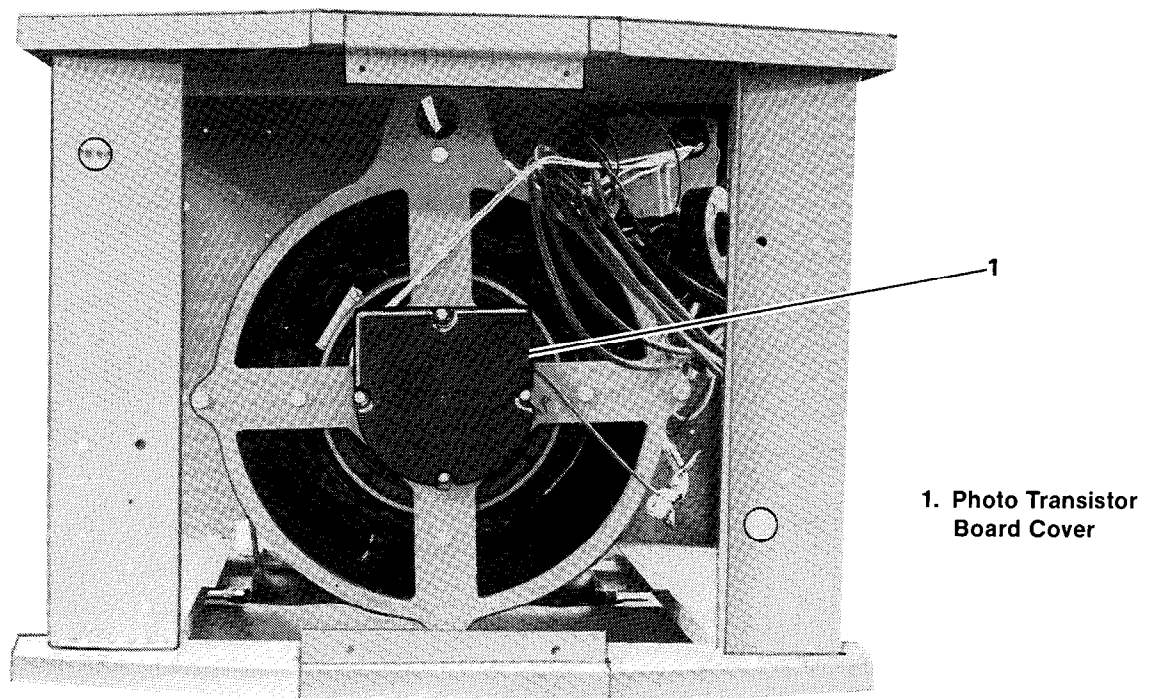

Figure 4-3. Panels Removed
1. Remove junction box panels from generator end of unit (Figure 4-3), and remove photo transistor board cover.